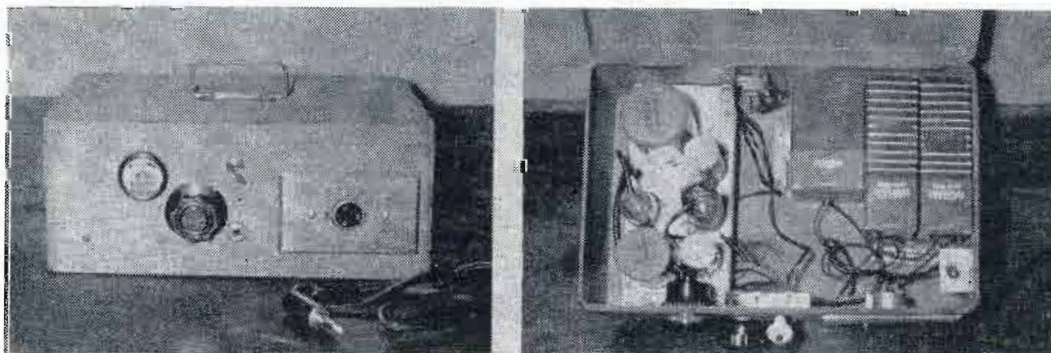

Fig. 1: Simply constructed remote amplifier is housed in 8 x 12 in. box, weighs only a few pounds
The following battery-operated remote amplifier (see Fig. 1), weighing only a few pounds, has only one switch to turn on and one volume control which is usually opened to maximum and left there. If preferred, the volume control can be omitted entirely. As an additional aid, a surplus visual indicator was added. If the operator wishes, there is room inside for spare batteries but we prefer to pack the microphone, spare batteries, spare tubes, screwdriver, headphones, etc., in a companion box about 8 in. square. The operator can broadcast conveniently from any place the phone company will string a loop.
Fig. 1: To produce printed circuit, copper laminate plate (A) is sensitized (B), and exposed to light through negative (C). Unexposed enamel is dissolved (D). Copper areas unprotected by hard enamel are etched away (E)